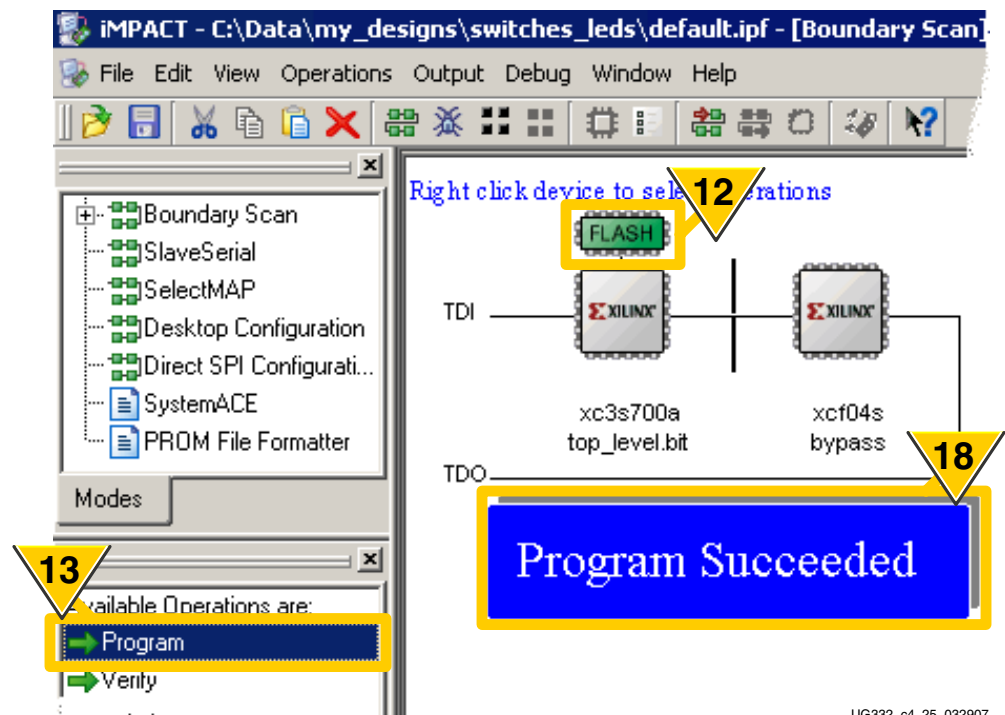

Figure 12-17: iMPACT Presents JTAG Chain, Shows Attached Flash PROM
12. As shown in Figure 12-17, the iMPACT software then displays the JTAG chain for the XC3S700A Spartan-3A FPGA followed by the XCF04S Platform Flash PROM. Click to highlight the **FLASH** memory attached to the XC3S700A FPGA. This action enables the command options shown in Step 13.